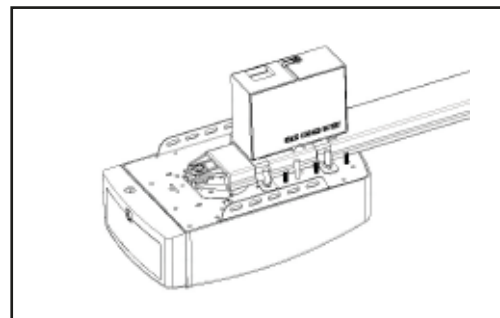

Figure 12
STEP 2 (Figure12)
Join the battery to opener, find the Figure 12.